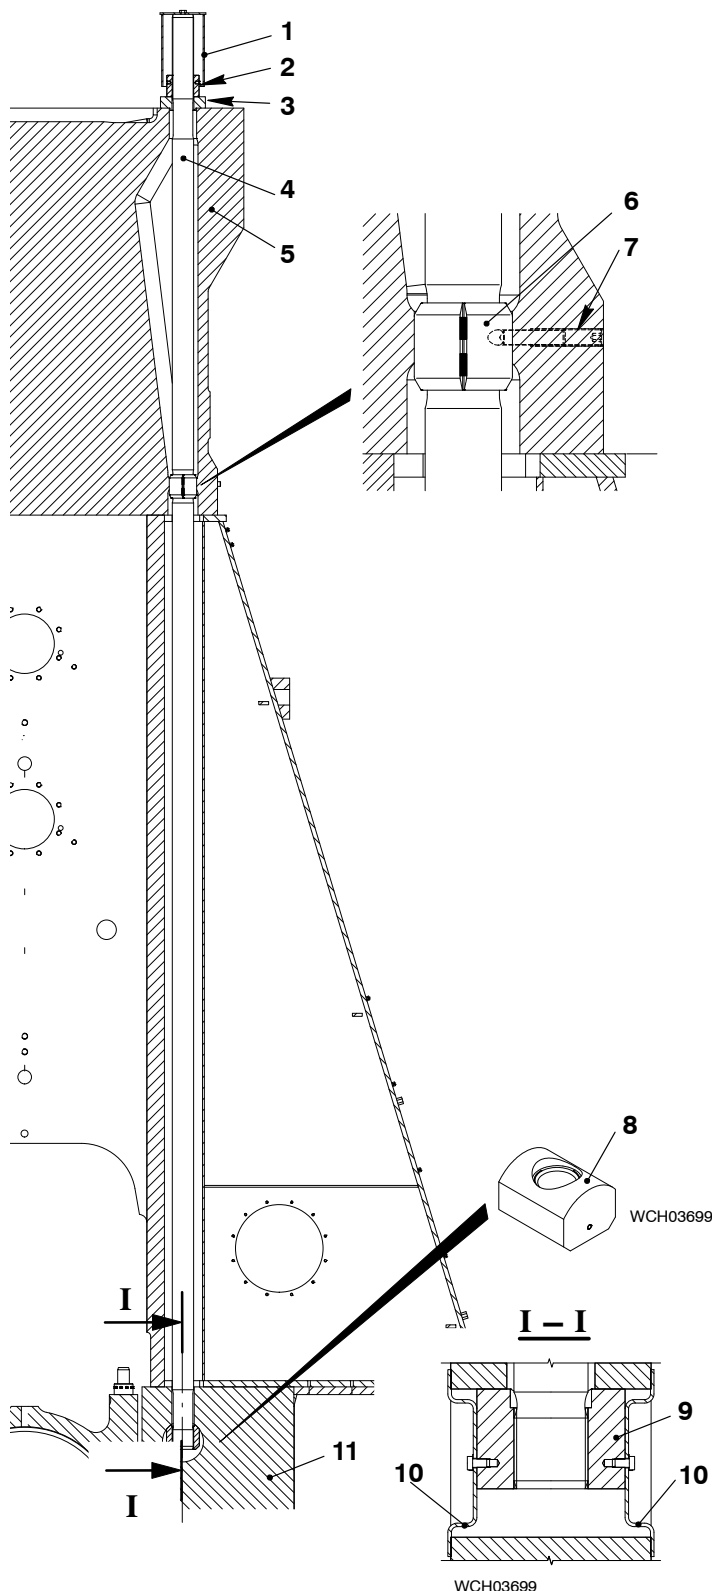

Fig. 2
- 1) Remove protection cover (1, Fig. 2) from all tie rods.
- 2) Clean the surface of the intermediate ring (3).